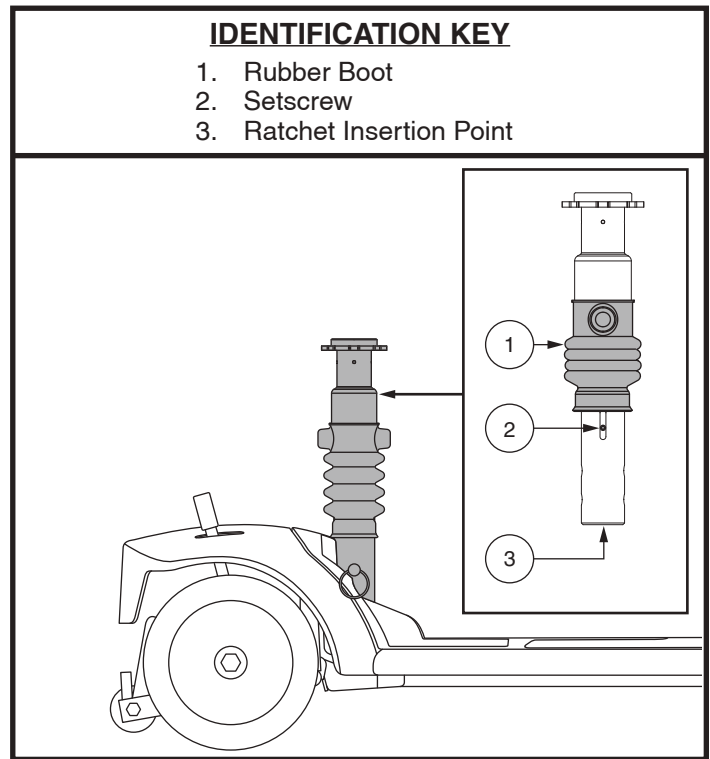

Figure 30. Seat Suspension Adjustment
The seat post acts as a shock absorber and can be adjusted for different degrees of ride comfort. Use the setscrews that are visible through the adjustment window on the side of the post as a guide when making adjustments. Slide the rubber boot towards the top of the post to expose the setscrews. See figure 30.
3. Insert a 13 mm socket with an extension into the bottom of the post. See figure 30.